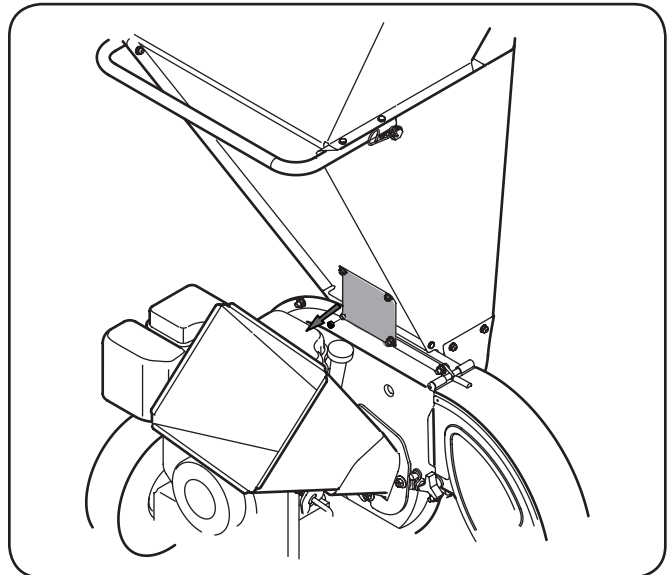

Figure 7-2
2. Remove the two flange nuts (and hex bolts) which secure the hopper support bracket to the impeller housing. Retain the hardware. See Figure 7-2.